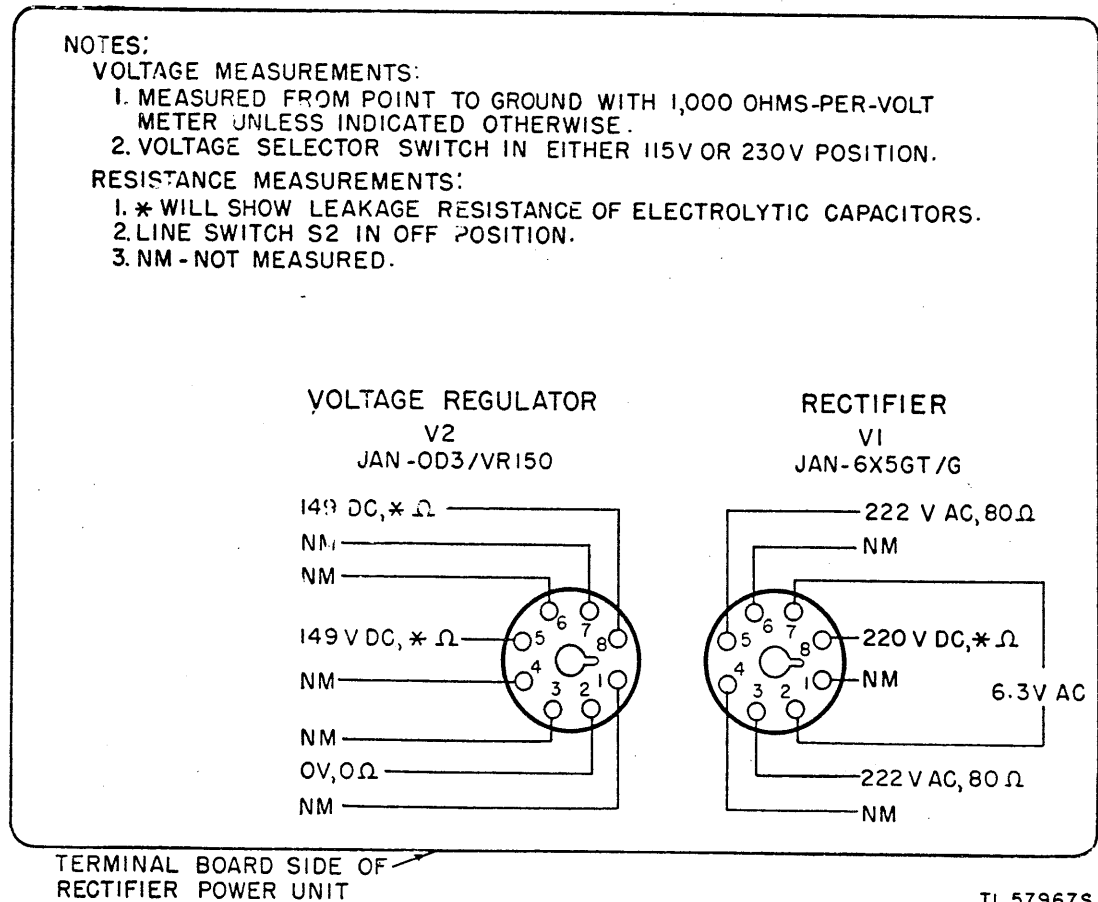

Figure 8. Rectifier Power Unit RA-133, voltage and resistance measurements.
c. *Voltage and resistance measurements.* Voltage and resistance measurements of the power unit are shown in figure 8.